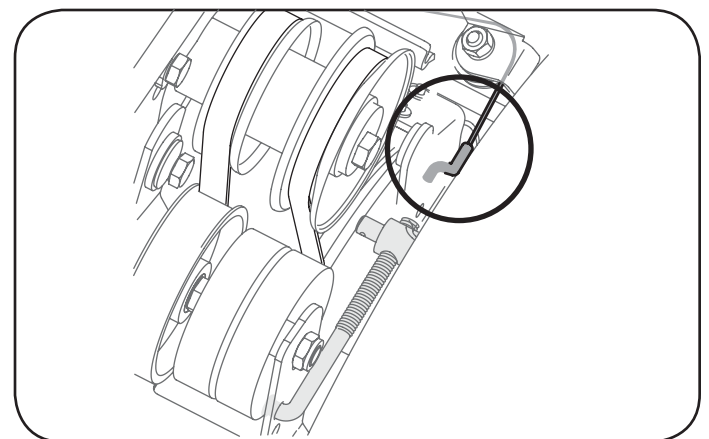

Figure 26
6. Pull the brake bracket assembly towards the cable guide roller and unhook the auger cable "Z" fitting. See Figure 26.